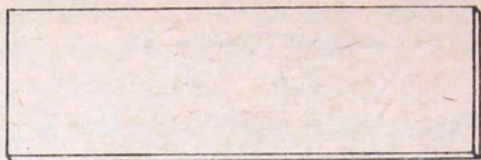

Fig. No. 1 (3)
**Tablas horizontales:** 60 cms largo, 30 cms ancho, 2 cms grosor (figura No. 1).